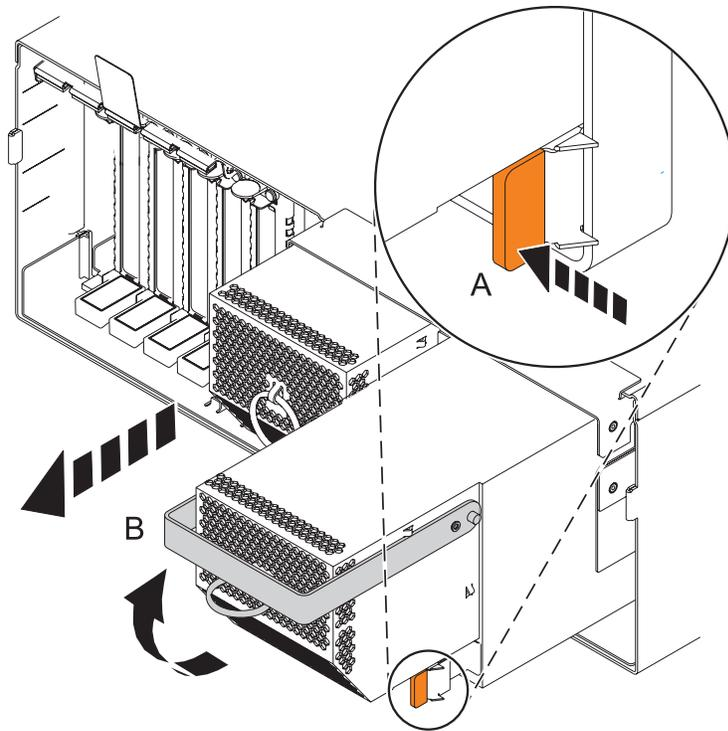

Figure 2. Power supply unlocked
5. As shown in Figure 2 on page 4, push the release tab (A) into the open position and lift the handle (B).